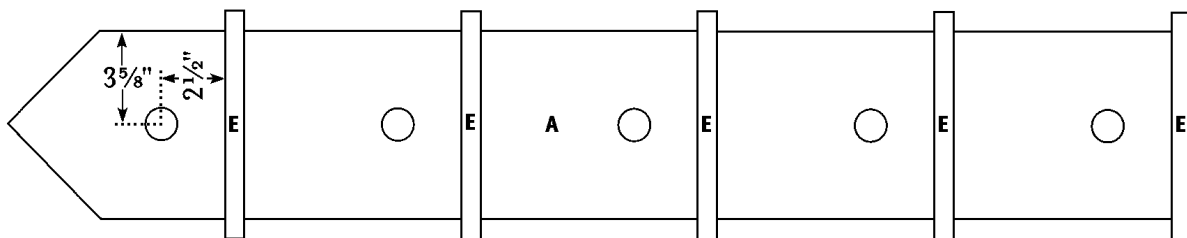

Figure 5
1. Refer to *Figure 5*, and mark the placement of five holes in the front of the base assembly.